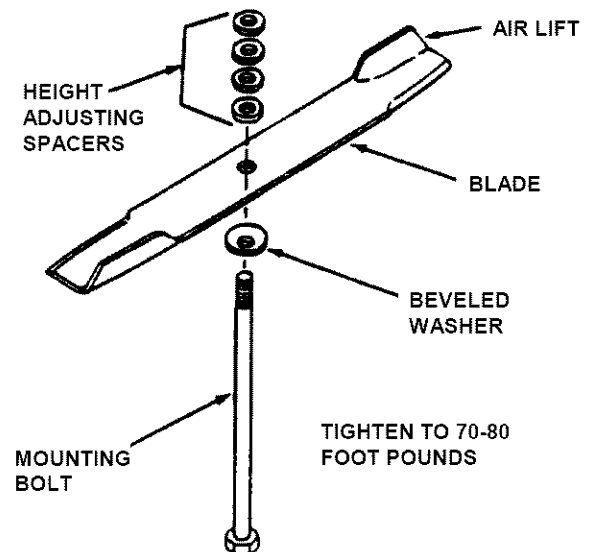

FIGURE 4.11
10. Install the Blade mounting nut on each Blade mounting bolt. See Figure 4.11.